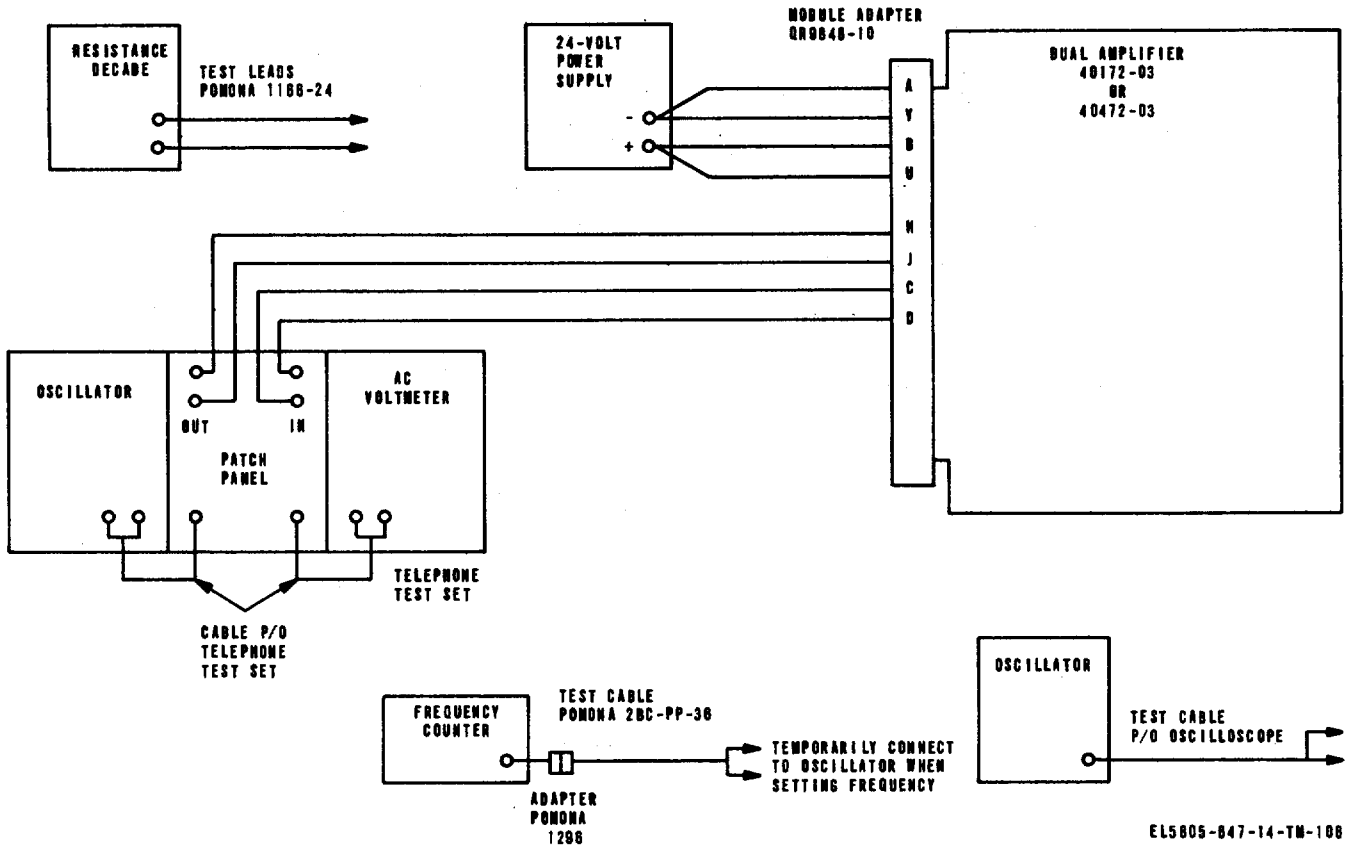

Figure 6-18. Dual Amplifier 40172-08 and 40472-03, initial test setup diagram.
(1) Connect the test equipment as shown in figure 6-18.
(2) Turn on all test equipment and allow for a warmup period as recommended in the technical manual for each test equipment.
(3) Adjust the output of the 24-volt power supply for 24 vdc.
- (1) Remove R4 from the printed-circuit card.
- (2) Connect resistance decade, set to 100K, to terminals E1 and E2.
- (3) Connect the 24-volt power supply to the module adapter (and printed-circuit card) as shown in figure 6-18.
- (4) Connect leads H and J of the module adapter to oscillator output terminals and connect leads C and D of the module adapter to a 600-ohm terminating resistor.
- (5) Set the oscillator for an output impedance of 600 ohms and a frequency of 1,000 Hz.
- (6) Connect an oscilloscope between the collector of Q3 and lead B of the module adapter.
- (7) Adjust the output level of the oscillator until the waveform displayed on the oscilloscope is slightly clipped.
- (8) Adjust the resistance decade and the output level of the oscillator until clipping on the positive and negative half cycles of the waveform is symmetrical.
- (9) Turn off the 24-volt power supply and select a resistor whose value is as close as possible to the value determined by the resistance decade. Solder the resistor between terminals E1 and E2.
- (10) Turn on the 24-volt power supply and recheck the waveform. If clipping is not symmetrical, repeat the procedure.
- (11) Turn off and then disconnect the test equipment.
module adapter (and printed-circuit card) as shown in figure 6-18.